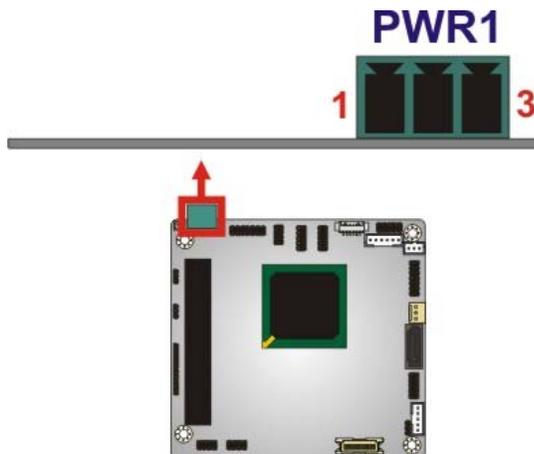

Figure 3-14: Power Connector Location
- CN Location:** See Figure 3-14